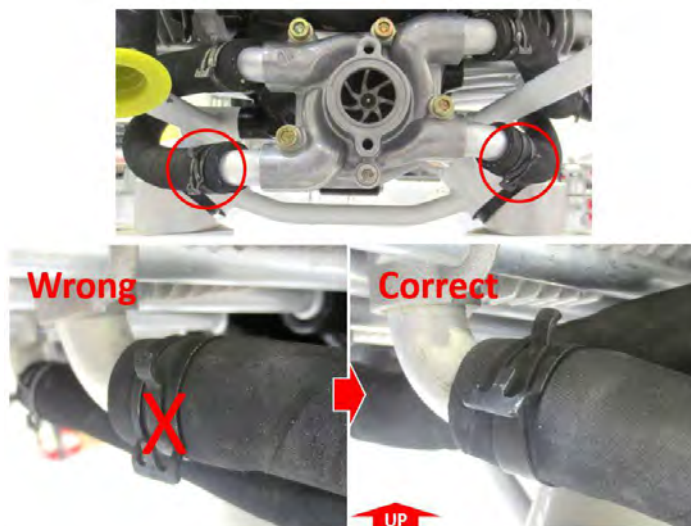

FIGURE 17-15
2. Disconnect the two coolant hoses where they attach to the lower water pump fittings as shown in the upper image of Figure 17-15.
3. Connect the two coolant hoses where they attach to the lower water pump fittings as shown in the upper image of Figure 17-15. Rotate the hose clamps on the hoses so the tabs are on top as shown in the lower graphic in Figure 17-15 (this prevents tabs contacting the firewall during engine installation).